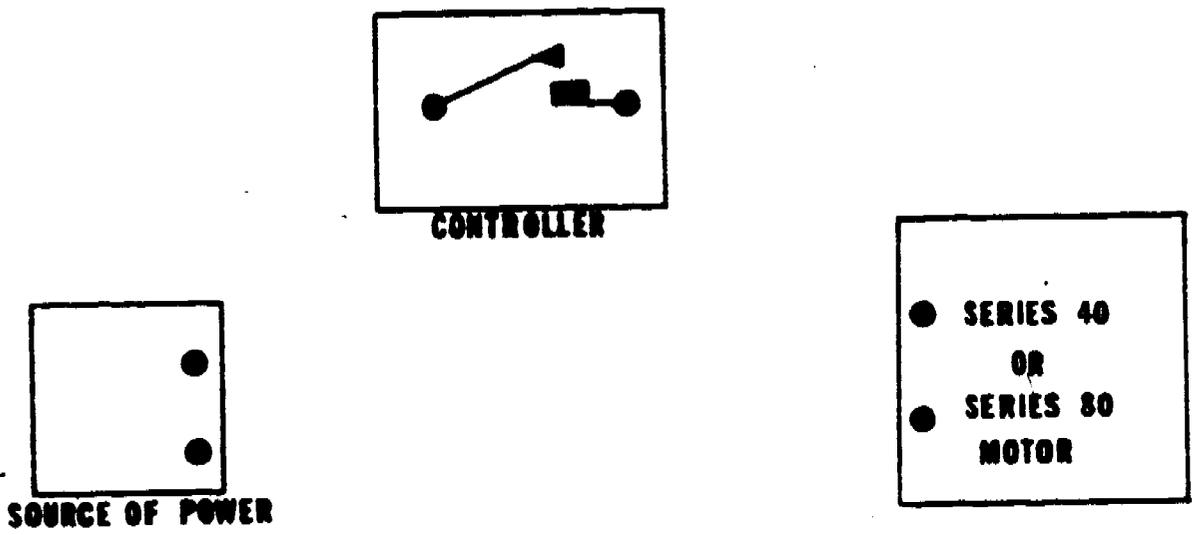

Figure 2. Control Circuit
1. Draw lines to indicate proper wiring, see figure 2.
5. Connect the wires as indicated in your drawing, figure 2.